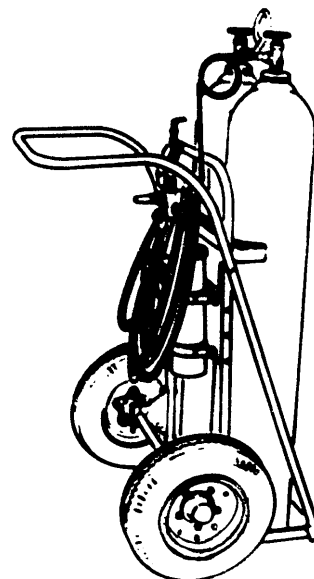

Figure 9-17. Nitrogen Servicing Unit
(6) Maintenance. Consult the applicable maintenance manual for preventive and scheduled maintenance requirements.
j. Nitrogen Servicing Unit. The two-wheeled, hand truck mounted nitrogen servicing unit, shown in figure 9-17, is used to service aircraft nitrogen systems. The cylinders are restrained on the hand truck by a chain. The controls are mounted on the cylinders.